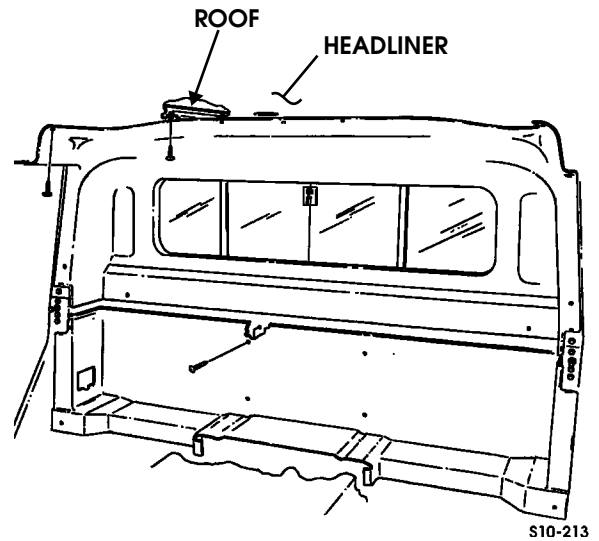

Figure 10-40: Headliner Positioning
15. Remove panel fasteners and headliner from roof (Figure 10-40).
1. Position headliner on roof and install with panel fasteners (Figure 10-40).